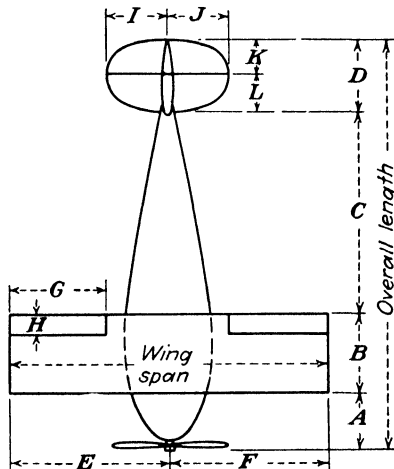

Fig. 5.—Top view of an airplane.
7. Measure each of the dimensions in Fig. 5. Read the